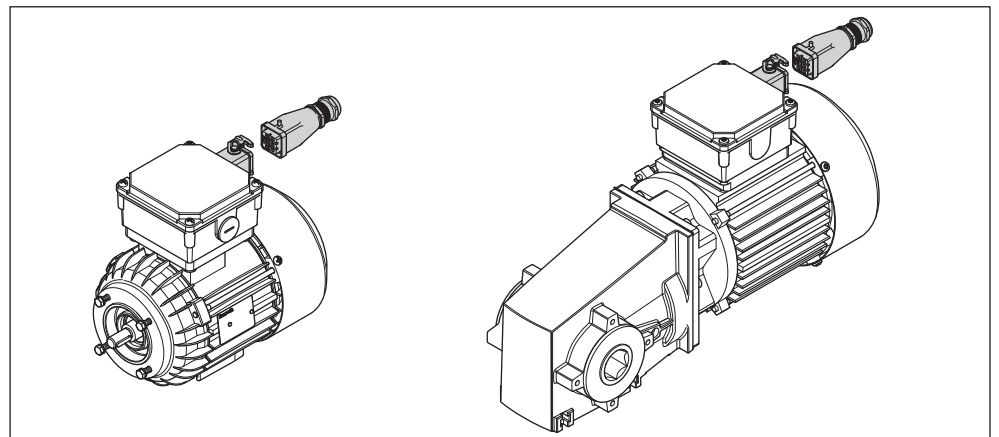

Fig. 11: Optional motor connection with plug (AT = S)
- Optional motor connection with plug (AT = S), see Fig. 11 on page 11. Pay attention to the pre-fuse.